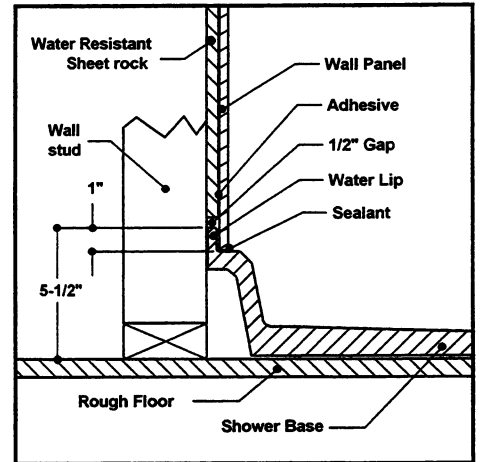

Fig. 1
The shower bases are designed to be installed directly on a rough floor and against the wall studs. The wall panels are to be installed (usually over sheetrock) with adhesive (See Fig. 1).
- Step 6. Install 1/2" water-resistant sheetrock, leaving a 1/2" gap above the "Integral Seal Lip" (See Fig. 1) to prevent water damage to the wall should the sealant fail.